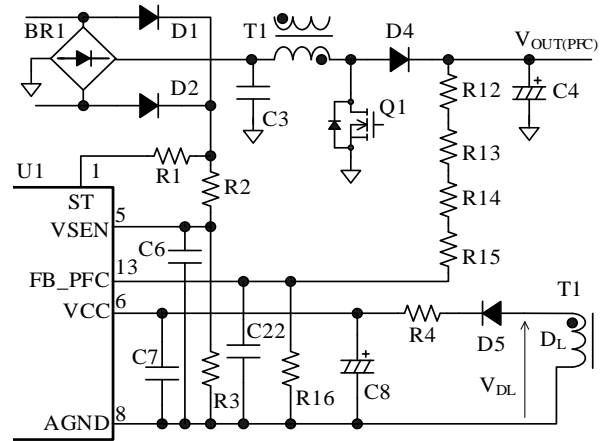
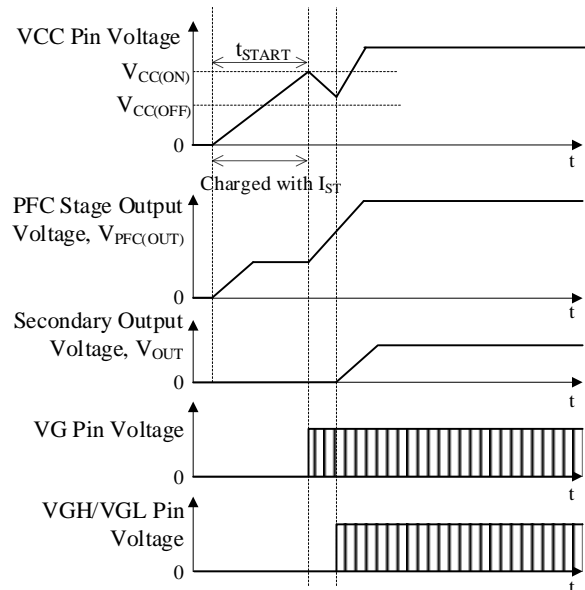

Figure 9-7. ST and VCC Pins and Their Peripheral Circuit
Figure 9-8. Operational Waveforms at Startup
Figure 9-7 shows the ST and VCC pins and their peripheral circuit. Figure 9-8 shows the operation waveforms during the startup.
After the LLC stage starts switching operation, a voltage to be applied on the VCC pin is the rectified auxiliary winding voltage, V_{DL} , as shown in Figure 9-7. After the power startup sequence ends, the startup circuit turns off automatically to eliminate the power dissipation by itself.
t_{START} is a period of time until the PFC stage starts operating (see Figure 9-8), and is determined by the capacitance of C8. The approximate startup time, t_{START} , can be calculated by Equation (2) below: The capacitance of C8 must be set to $\geq 47 \mu\text{F}$.